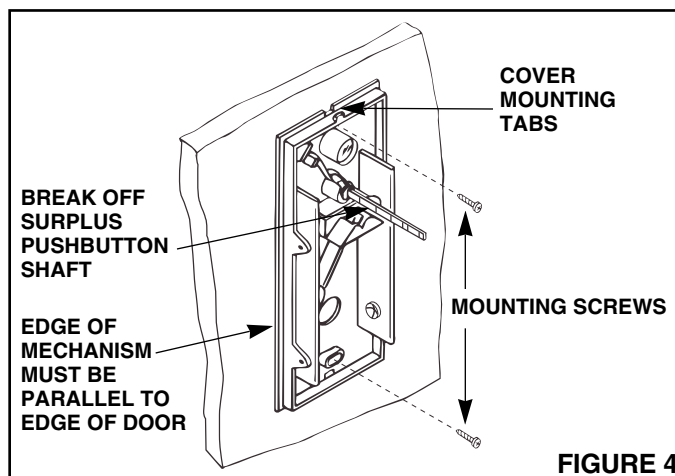

FIGURE 4
1. Refer to **Figure 4**. Position the baseplate mechanism over the pushbutton shaft and viewer. Align baseplate parallel with the edge of the door and insert the top and bottom mounting screws provided. Tighten screws securely.
Refer to **Figures 4 and 5**.